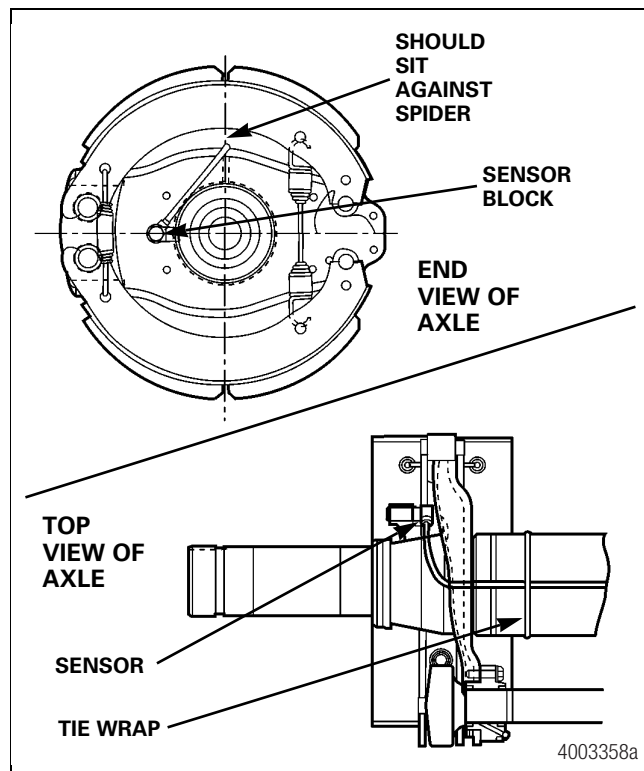

Figure 13.13
3. Route the ABS wires on TP and TR model axles equipped with cam brakes without an ABS spider hole as follows. Figure 13.13.